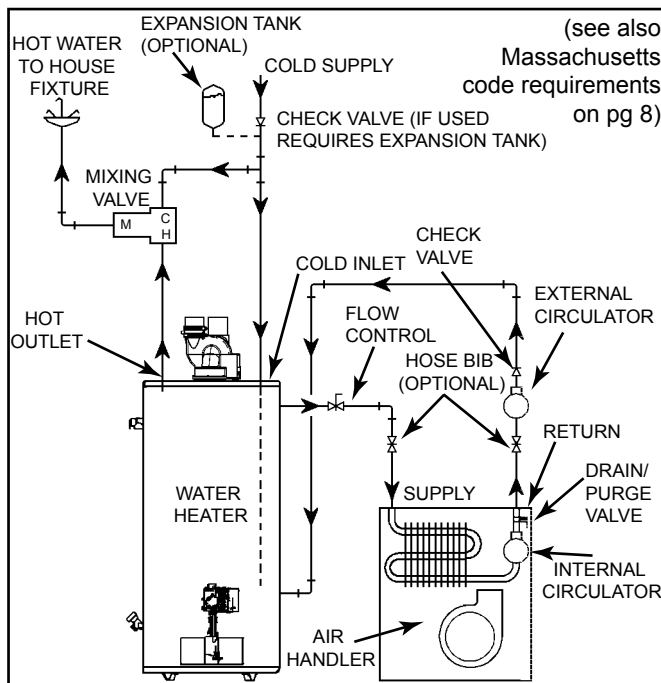
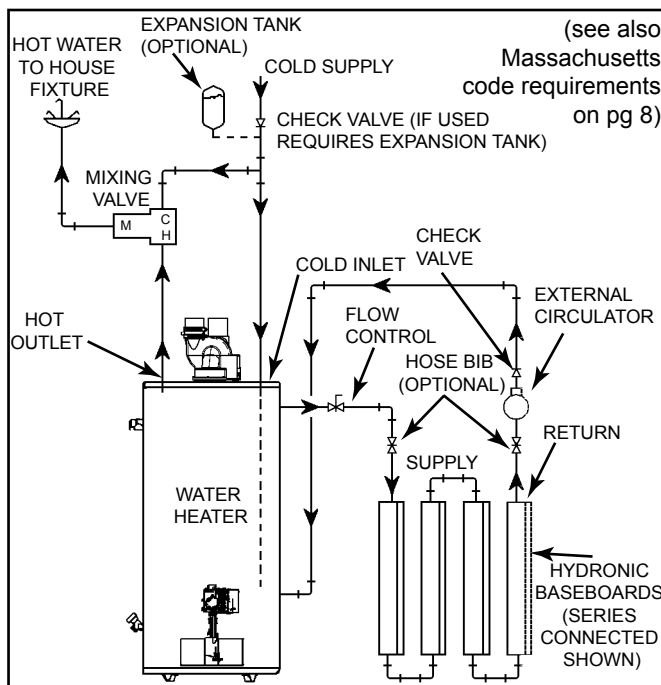

Figure 13
Figure 14
8. “Combo” Heating Systems require higher water temperatures than other applications. When the system is used to supply water for Combo Heating applications, a means, such as mixing valve, must be installed to temper the water in order to reduce scald hazard potential (see Figure 13 & Figure 14).
- A. A fan coil/air handler (Figure 13).
- B. A hydronic baseboard (finned tube) loop/In floor heating (Figure 14).